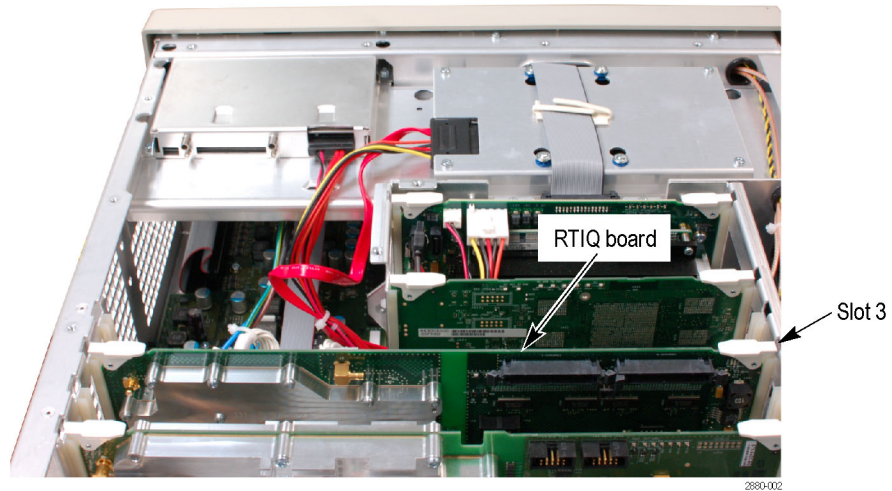

Figure 2: Installing the RTIQ board
2. Install the Option 55 (RTIQ) board into Slot 3 (counting from the rear of the instrument). (See Figure 2.)